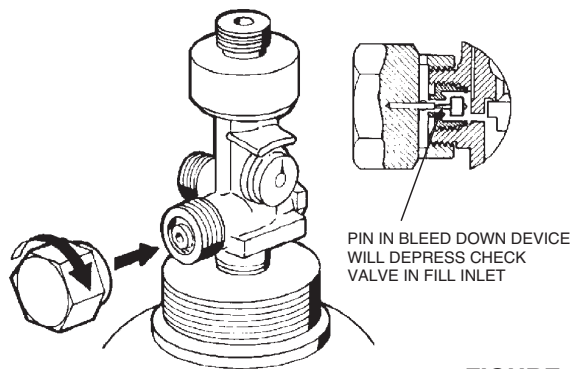

FIGURE 2
- b. Attach bleed down device, Part No. 426028 for the CV-98 or Part No. 416656 for CV-90, to valve fill inlet. See Figure 2.